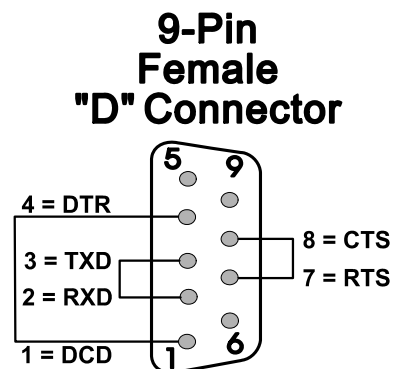

Figure 5-12. RS-232 Loop-back Plug
- Ports 1, 2, 4, and 8 (RS-232) use a 9-pin female D-type loop-back plug (shown in *Figure 5-12*).